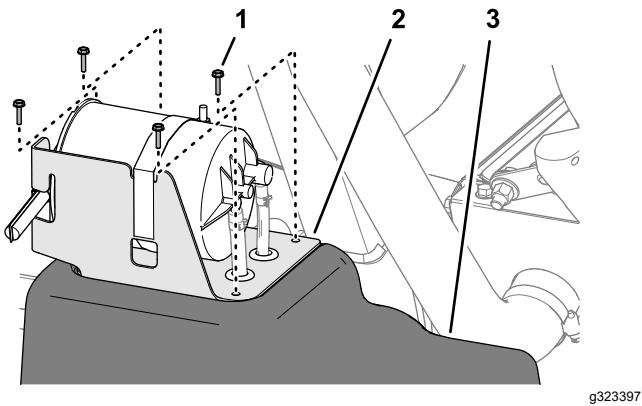

Figure 87
5. Align the holes in the carbon-canister bracket with the holes in the fuel tank (Figure 87).
6. Assemble the bracket to the tank (Figure 87) with the 4 screws (#10 x 3/4 inch).